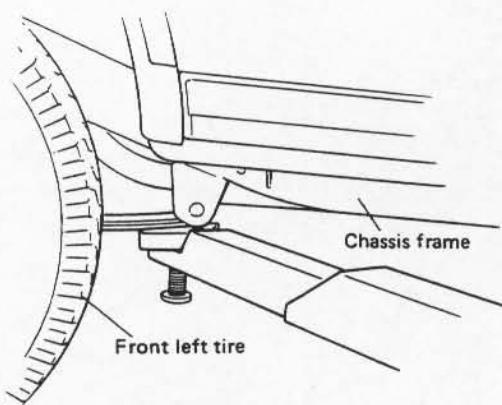

Fig. 0-7 Front Support Location
5. Fig. 0-7 and 0-8 show how to lift the car by using a hoist.